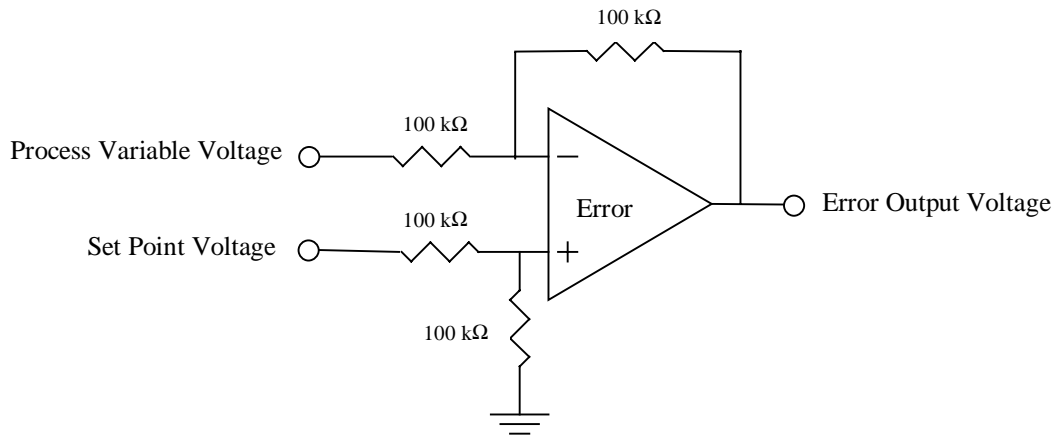
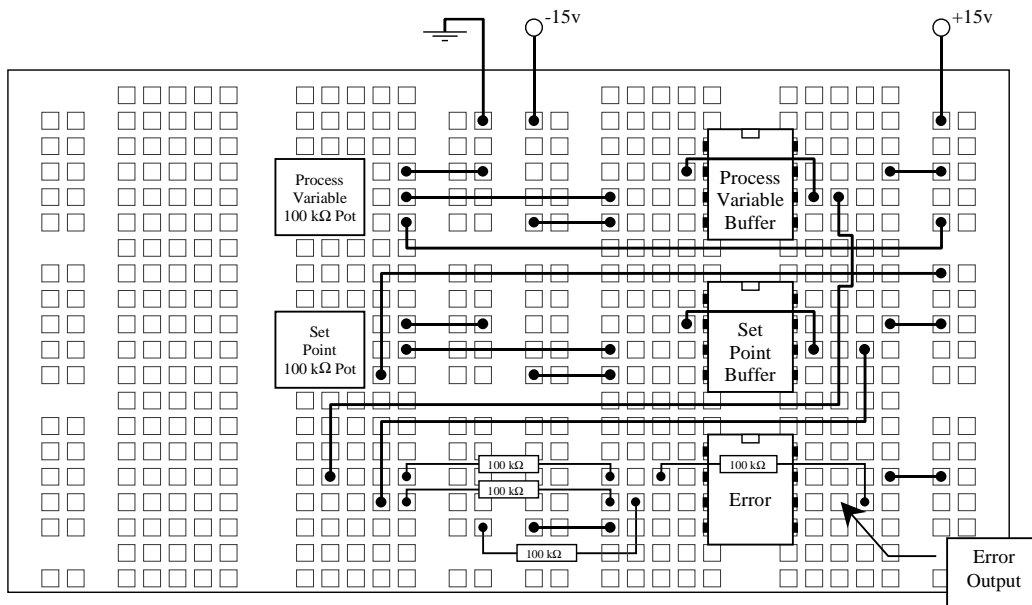

Figure 17a : Circuit diagram for error op amp
Figure 17b: Component positions for error op amp
4. Insert jumper wires and 100 k Ω resistors according to the circuit diagram shown in Fig. 17a. The actual component positions are shown in Fig. 17b.
- You will now test to insure that the output of the error op amp is functioning properly. Turn the knob of the process variable pot approximately half way so the output of the pot is approximately 7 volts (see Fig. 17b). Now, turn the set point pot all the way to the left. The output of the error op amp (Fig. 17b) should be the same value as the output of the process variable with the opposite sign (approximately negative 7 volts). As the set point pot knob is turned to the right, the output voltage of the error op amp should approach zero as the knob approaches half way. If you continue to turn the knob all the way to the right, the output voltage should approach approximately positive 7 volts. Do not continue until the error op amp is functioning properly.